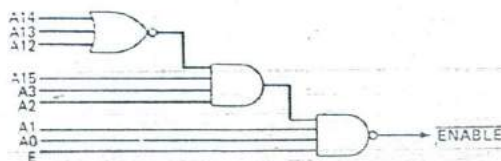

Fig. 12-14 A partial decoder for S813F.
signal. Full decoding is not necessary in many industrial systems. We have already learned that the memory map is seldom full. Figure 12-14 shows how partial decoding can simplify circuit design. The same address is decoded, but the circuit is designed with don't care bits on the address bus. This arrangement allows three gates to satisfy the design requirements. The same rules are used. The NOR gate handles those bits that are low, and the AND and NAND gates take care of the high bits and the E clock. The price that must be paid for partial decoding is that many addresses will produce an enable signal. The circuit of Fig. 12-14 will decode S812F, S800F, S823F, S8FFF, and many others.
35. Refer to Fig. 12-14. What is the lowest hex address to which the decoder will respond? The highest? How many addresses will be decoded?